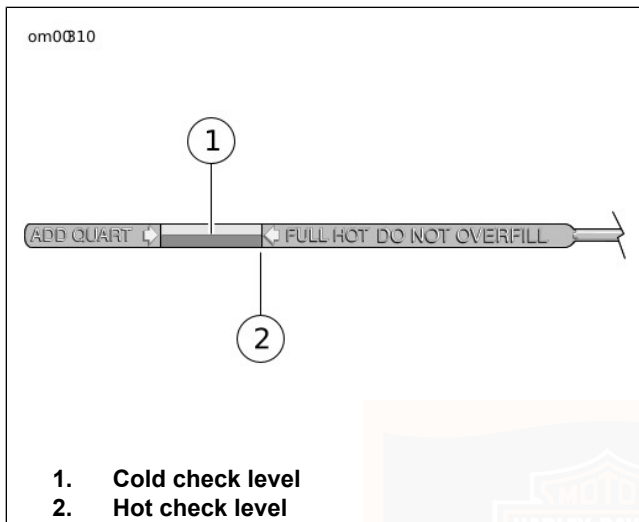

Figure 40. Engine Oil Level: Touring Models
1. See Figure 40. For preride inspection with the vehicle resting on the jiffy stand on level ground, wipe off the dipstick. Insert it back into the oil pan with the plug pushed completely into the fill spout.